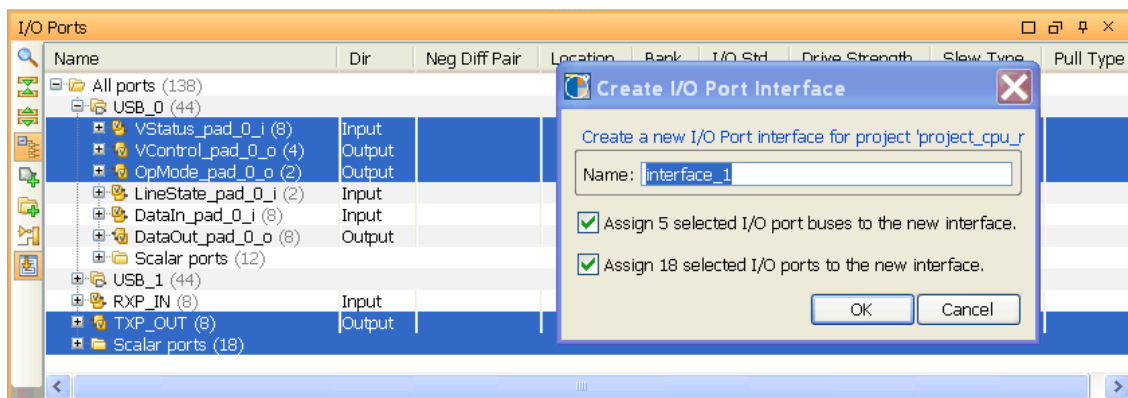

Figure 8-18: Create I/O Ports Interface
2. From the popup menu, select **Create I/O Port Interface**, as shown in Figure 8-18, page 268.